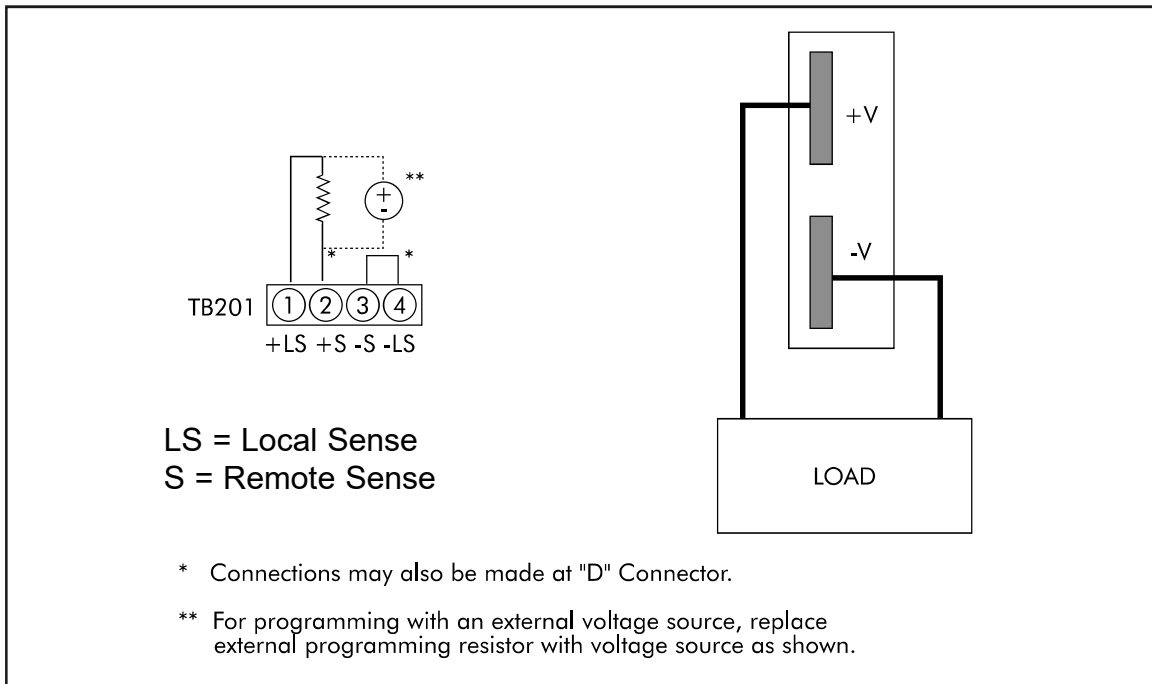

Figure 4 - Remote Voltage Control with an External Programming Resistor or Voltage Source (Local Sensing)
Remote Voltage Programming external resistor.	1000 ohms per volt for resistor connected between pins 1 and 2 on TB201 (see Figs. 4 and 5).
Remote Voltage Programming external voltage source.	Volt per volt for voltage source connected between pins 1 and 2 on TB201 (see Figs. 4 and 5).
2. With the power supply unloaded, set V_{out} to the OVP threshold desired. In cases where the desired OVP threshold exceeds the unit's adjustment range maximum of 56.0V, a programming resistor (see figures 4 & 5) will temporarily be needed to provide the higher output voltage to perform the adjustment. Once adjusted, remove the programming resistor. Alternatively, you may use an external voltage source to set the OVP threshold as shown in figures 4 & 5.